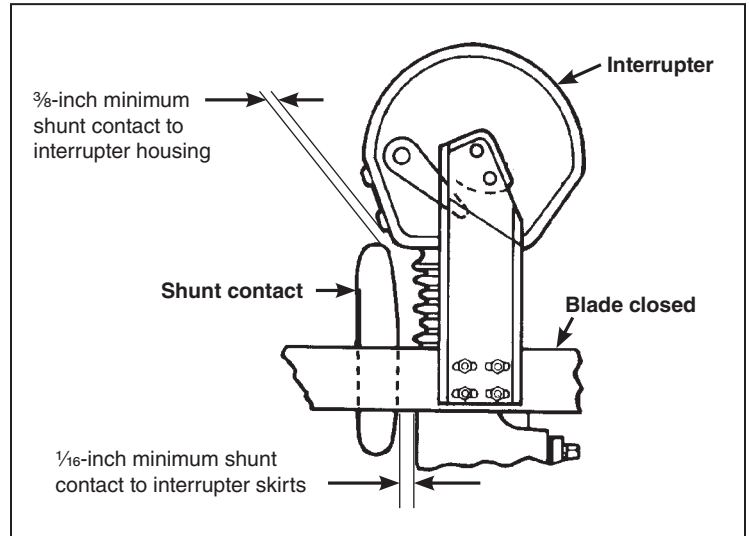

Figure 45. The blade assembly in fully Closed position.
- (f) With the switch in the fully **Closed** position, verify the minimum clearances between the blade-shunt contact and the interrupter, measured to the interrupter housing and the interrupter skirts. See Figure 45.